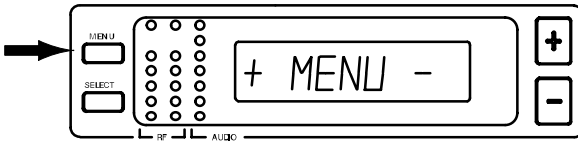

FIGURE 21
- Press the MENU button. The "+ MENU -" display appears, as shown in Figure 21.